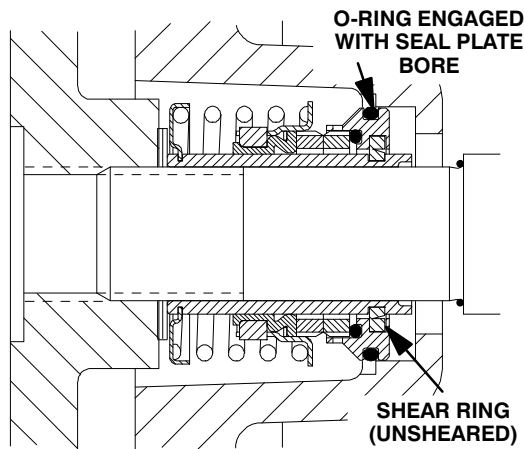

Figure 9. Seal Partially Installed
Clean and inspect the impeller as described in **Impeller Installation and Adjustment.** Install the full set of impeller shims (25) provided with the seal, and screw the impeller onto the shaft until it is seated against the seal (see Figure 9).